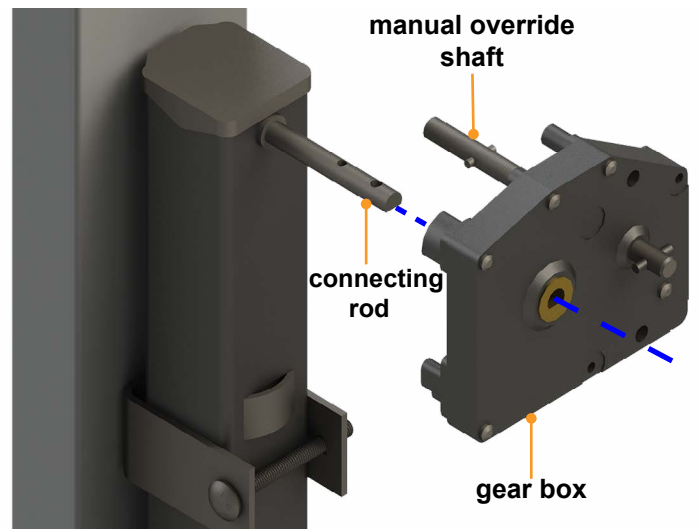

Fig.6
9. Attach landing gear box to lead landing leg, so that the manual override shaft faces toward the back (Fig. 6). The connecting rod goes through the hole in the gear box and the manual override shaft through the hole in the frame (hole not shown).